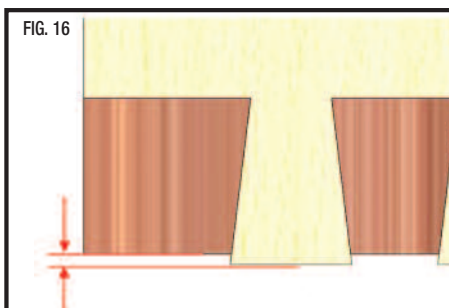

FIG. 17
- Insert the aligning tool into the slot to properly center the wood with the jig. (FIG. 17)